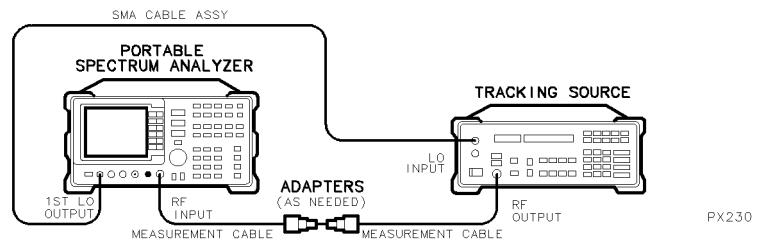

Figure 3-2. Calibrating the HP 85645A and HP 8563A/E System
- Connect the equipment as illustrated in Figure 3-2.